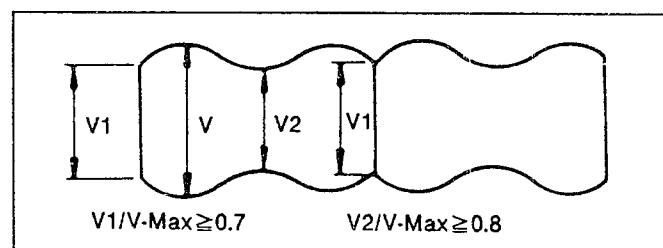

Fig. T7
- (1) Set the tracking control to the fixed position by pushing both of the tracking control Up/Down switches, in at the same time. Connect the oscilloscope to P5001 pin 23.
- (2) Playback the monoscope portion of the alignment tape and confirm that RF envelope appears as show Fig. T7